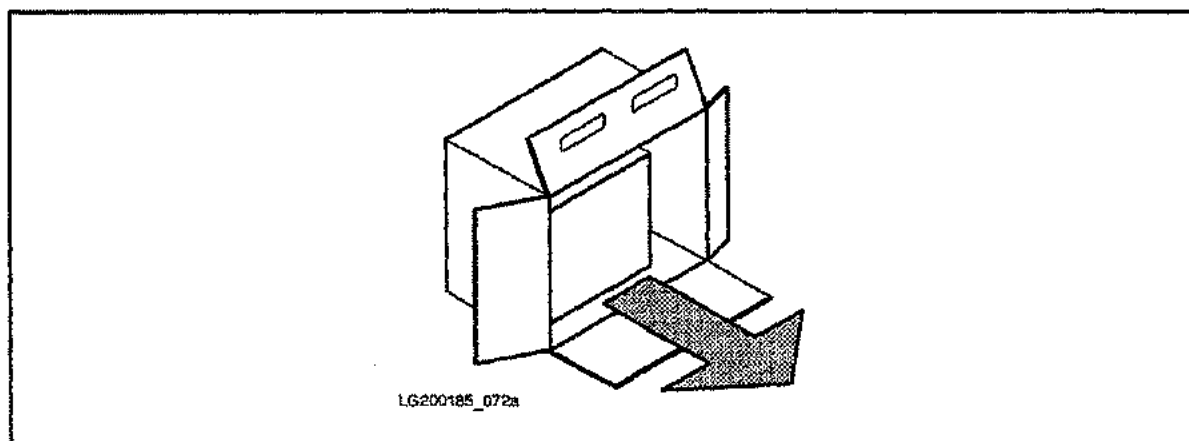

Figure 3-4. Removing the Computer from the Box
6. Pulling alternately with your left and right hand, slowly slide the computer out of the shipping box. See Figure 3-4. Save the shipping box and packing materials in case the computer needs to be moved to another location.